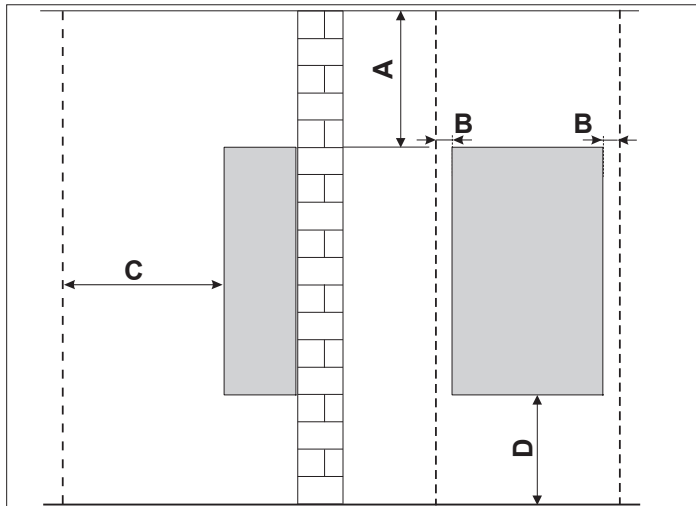

Figure 2 - Minimum Clearances
**NOTE:** If you do not provide the minimum clearances shown in Figure 2 and Table 5 it might not be possible to service the boiler without removing it from the space.